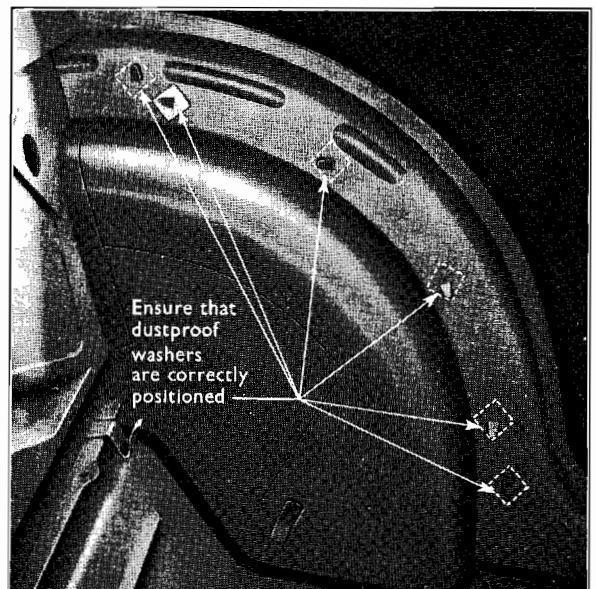

Fig. 15
2. Ensure that the polyurethane packings fitted over the trim clips on rear quarter panel lower trims are correctly fitted (see Fig. 15).